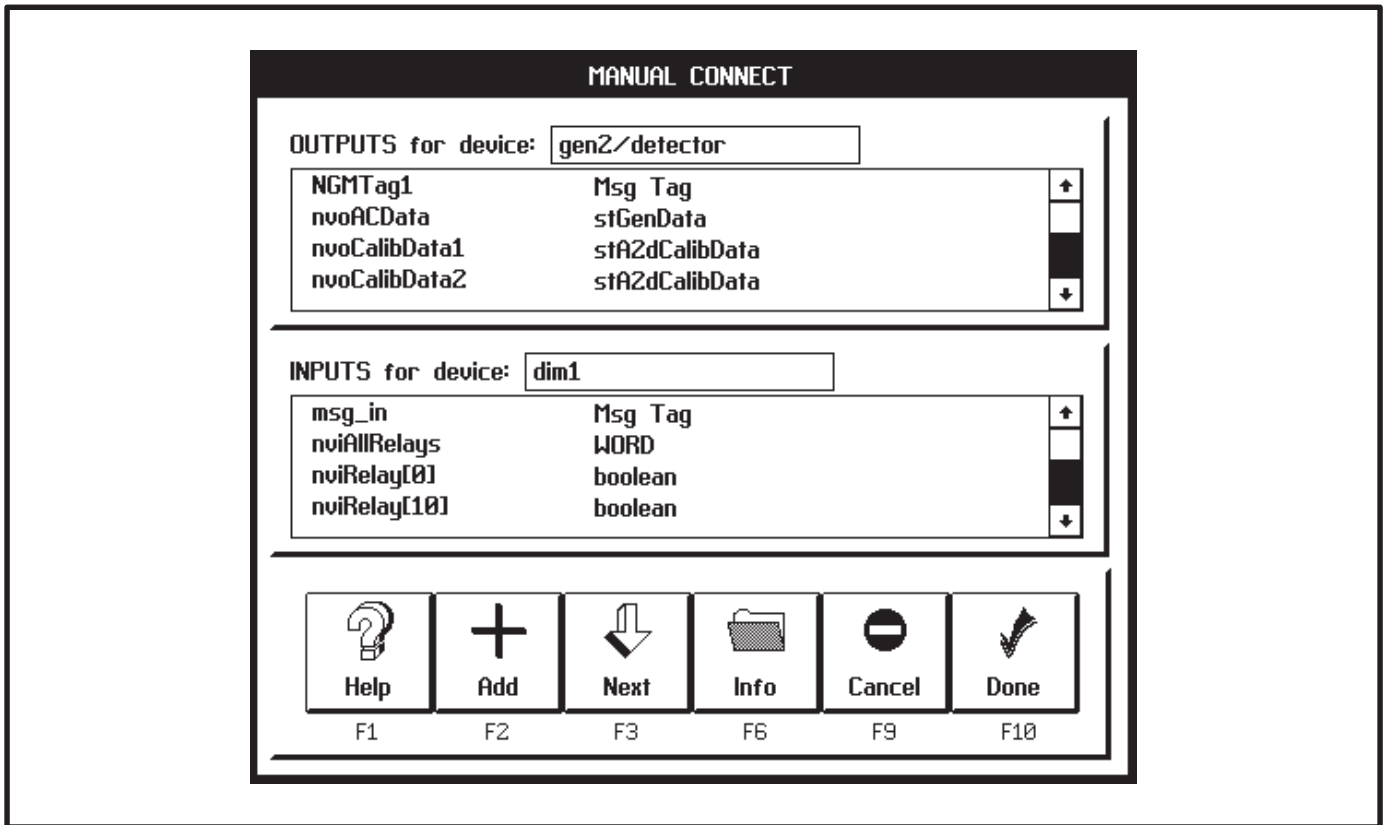

FIGURE 3-12. MANUAL CONNECT SCREEN
1. Click on the Manual action button. The MANUAL CONNECT screen appears (Figure 3-12).